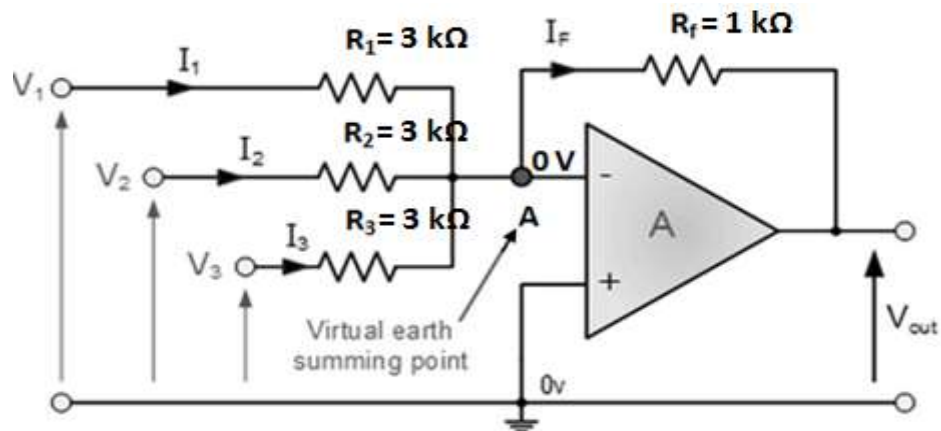

Fig.11.3 Circuit diagram of Average amplifier
- Connect the circuit as shown in fig.11.3.